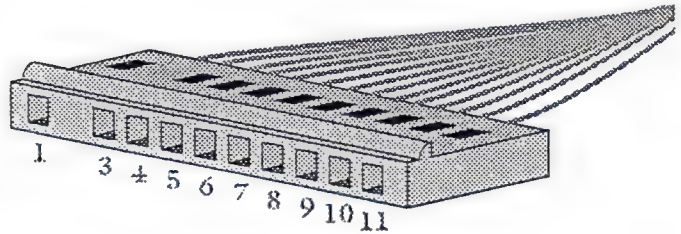

Figure 9: Power supply plug
1. You must solder header strips onto the pins of the Macintosh CPU. Two 32-pin header strips are supplied, mounted under a 64-pin socket as shown in Figure 9. The 64-pin socket is only used as a carrier for the header strips to provide alignment — once you are done, discard the socket.